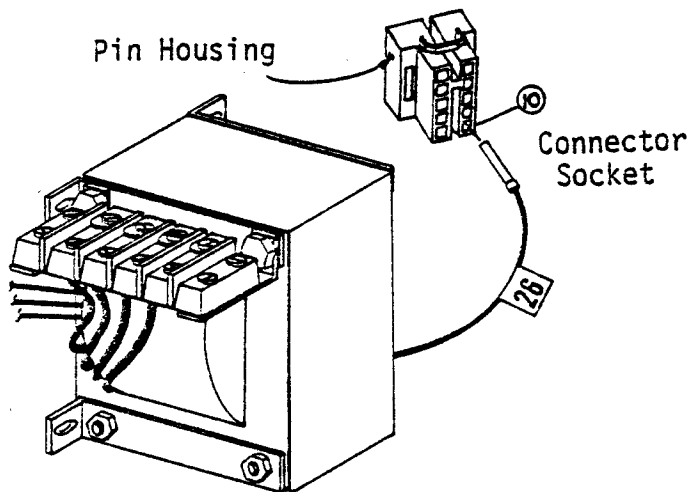

Figure 5-58. Pin Housing Insertion
2. When all eight wires on the primary side of the transformer have pins attached, insert the pin housing (P4) as shown in Figure 5-58. Insert the pins in the following order (see wiring diagram, Figure 5-50):